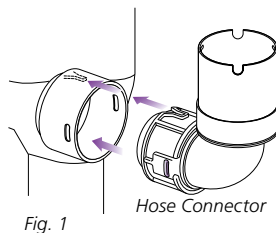

Fig. 1
- 2** Insert the hose connector into the opening on the back of the vacuum body. (Fig. 1)